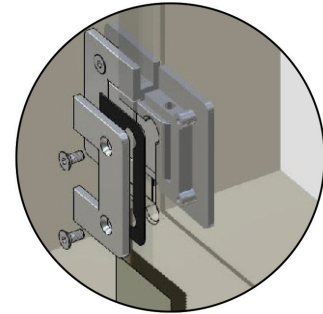

FIG 19.
- Starting at the top of the wall channel, from outside shower, spray with warm soapy water then insert rubber wedge seal into gap (removing timber wedges if used). (FIG 19) Leave rubber wedge protruding 40mm at top to cut off later.
- Fasten hinges to return panel and place in closed position. Hex screws should face into shower and pivot point of hinge should be on door panel (FIG 19). Hinges require 1 thin gasket behind each plate to stop glass from contacting hinge metal.